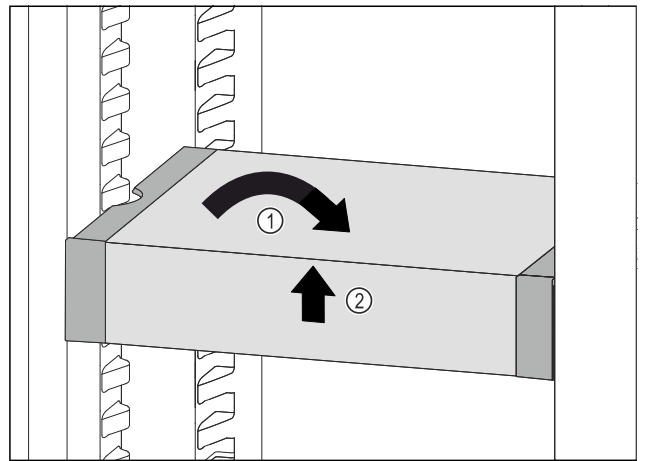

Fig. 108
- ▶ Set VarioSafe straight. *Fig. 108 (1)*
- ▶ Lift VarioSafe at the front. *Fig. 108 (2)*